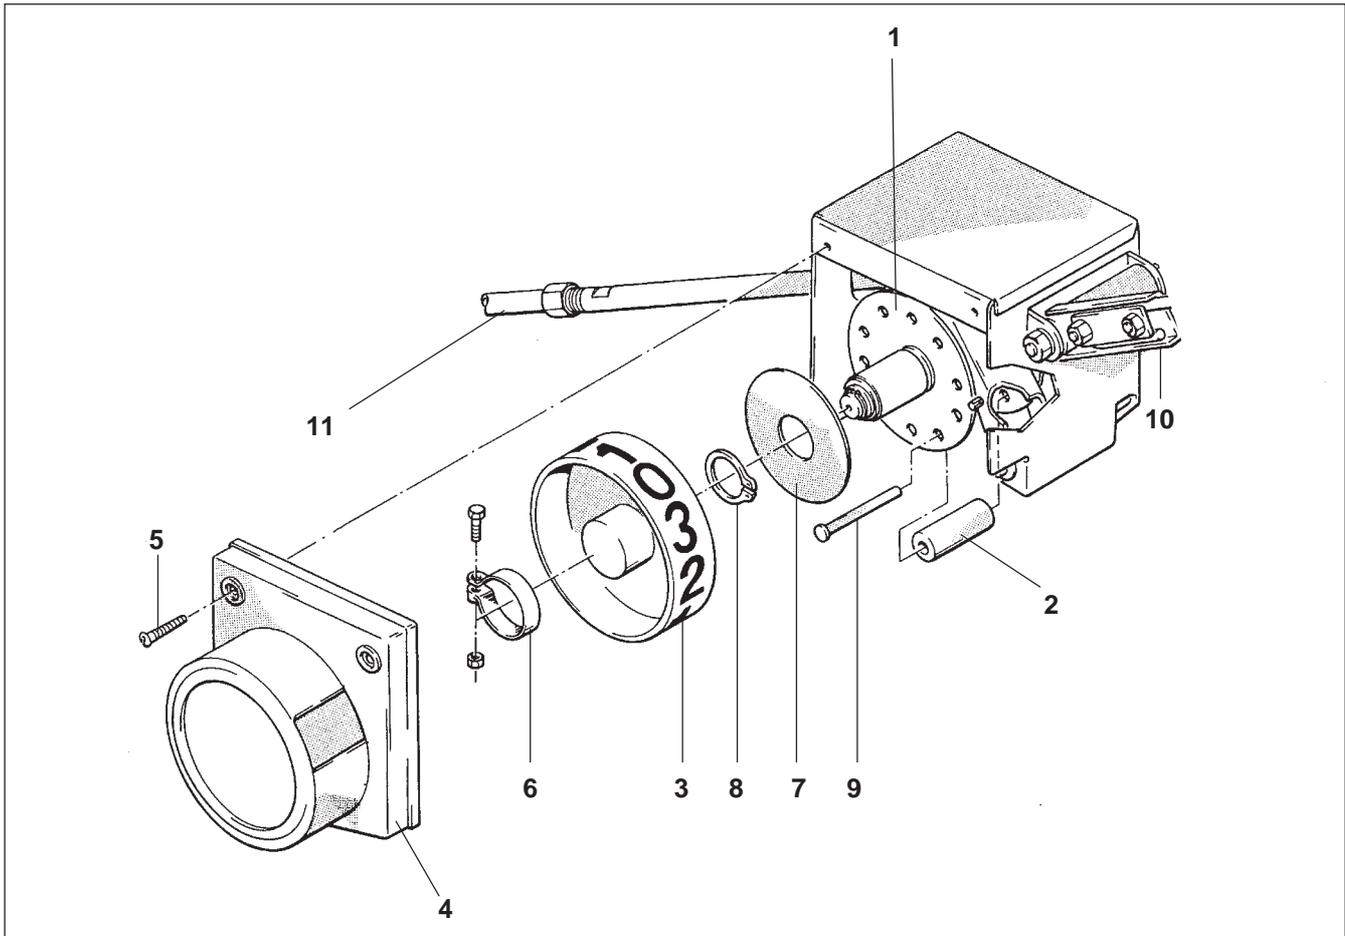

Fig. 26.40
- Fit safety disc (Fig. 26.40/7) and circlip (Fig. 26.40/8) .
- Apply new figure sticker onto display wheel (Fig. 26.40/3), as described in para. 26.11 and first loosely affix to the divider wheel with the aid of the clamp (Fig. 26.40/6) .
- Press lever (Fig. 26.40/10) so often downwards until the clamping tube (Fig. 26.40/11) is tightened and kept in position by a shifting roller (Fig. 26.40/2). Hold the protective cover (Fig. 26.40/4) against the switch box and turn the display wheel (Fig. 26.40/3) until the figure "0" can be seen inside the window of the protective cover.
- Clamp down the display wheel (Fig. 26.40/3) with the clamp (Fig. 26.40/6) and fit the protective cover (Fig. 26.40/4).
- Press lever (Fig. 26.40/10) so often downwards, until the display wheel (Fig. 26.40/3) has made at least three full turns and check, whether the switch box operates properly, e. g. whether in every "0"-position the clamping tube (Fig. 26.40/11) is pulling.